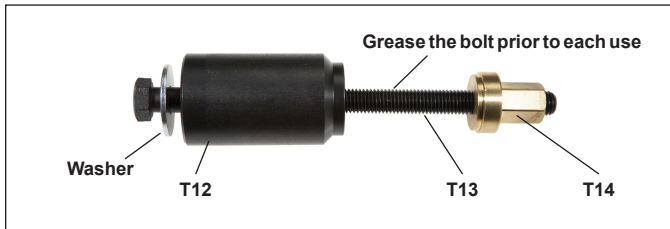

Figure 69 – Brass Bushing and Short Guide Pin Bushing Removal Tool for ADB22X and ADB22X-LT
4.6.12 Prepare to remove the brass bushing used in the long guide pin side. Assemble the long bolt (T13), washer, and sleeve (T12) as in Figures 69 and 70.
4.6.16 Use the tool combination shown in Figures 74 and 74 (comprising T14, T20, T12 or optional T21 per Figures 69 and 74, and a washer) to remove the bushing (6). Screw nut (T14) onto the assembly by hand, then tighten the bolt (T20) using a box end wrench to draw out the bushing. Discard the removed bushing, and verify that the bore is clean by wiping with a shop cloth.